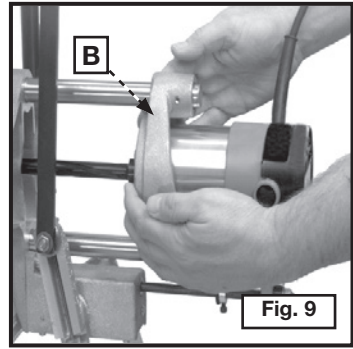

Fig. 9
3. Place the mortiser against the edge of the 2" x 6" so that the clamps are firmly seated. The crank (E) will be free to revolve. Tighten the clamp handles (D) securely to hold the mortiser in position.
4. Move the feed lever (A) to the vertical position to engage the feed mechanism.
6. Turn motor switch "ON" and rotate the crank (E) until the collar (F) hits the feed housing, stopping the depth of cut and completing the mortise.
8. Move the feed lever (A) to the horizontal position.
9. Grasp the motor carriage (B) Fig. 9 with both hands and pull toward you until the bit is clear. Remove the mortiser from 2" X 6".